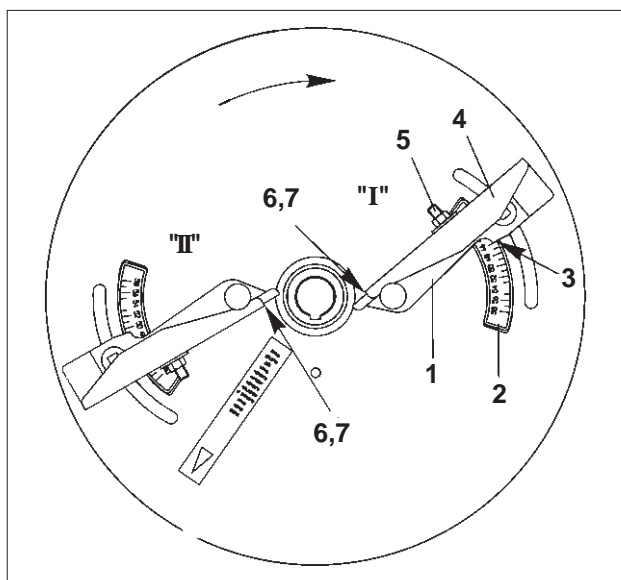

Fig. 7.10
Setting the border spreading discs **TS 5 - 9** and **TS 10 - 14** resp. **TS 15 - 18** and **TS 4** is done by the telescopic vanes (Fig. 7.10/1) according to the data given in the setting chart, depending on kind of fertiliser to be spread and the distance of the first track from the field's side as follows:
- a) After having slackened the corresponding thumb nut, swivel the telescopic blades (Fig. 7.10/1) on the spreading within the range of the scale (Fig. 7.10/2). Read off figure on the reading line (Fig. 7.10/3) and retighten thumb nut.
- b) After slackening the nut (Fig. 7.10/5) set outer vane part (Fig. 7.10/4) on a higher letter value on the scale (Fig. 7.10/6). Read off the position of the vane outer part on the reading line (Fig. 7.10/7) on the scale.